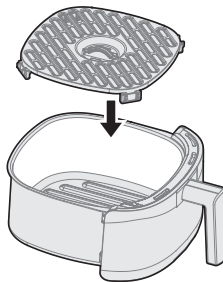

Figure 2
2. According to different configurations install the barrel assembly (Figure 2), then push it into the Main unit (Figure 3).